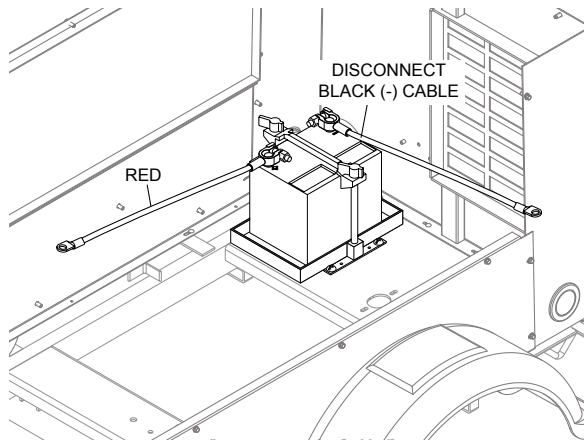

Figure 6. Disconnect Negative Battery Cable
1. Disconnect negative battery cable. See Figure 6.